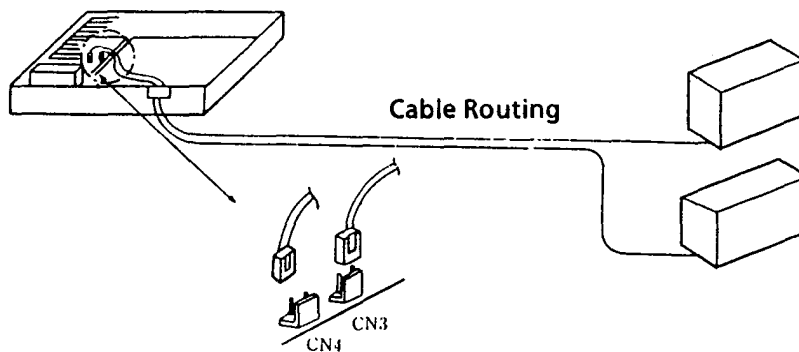

Figure 1-15 Connecting External Batteries
2. Mount the external batteries and connect to CN3 and CN4 using the external battery cable assembly. (Refer to Figure 1-15 - Connecting External Batteries.)